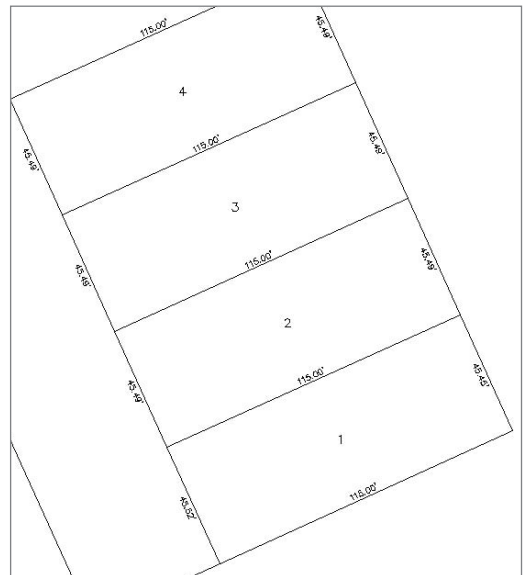

Figure A.31
8. At the **End point:** prompt, click inside **Single-Family: 10**, and then click inside **Single-Family: 21**. Press **↵** to end the command. The parcel labels will change to **Number Only**, as shown in Figure A.31.